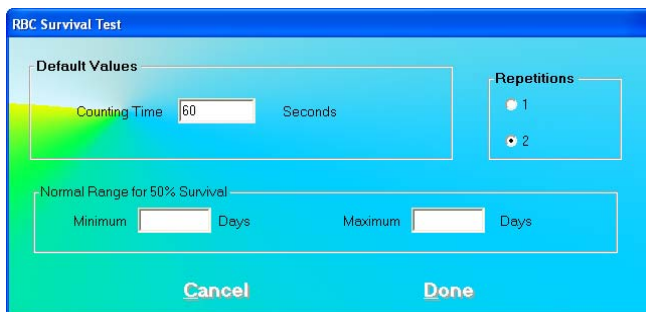

Figure 10-65
1. Click the  icon on the RBC Survival Test screen. The screen appears as shown in Figure 10-65. This screen allows the user to enter counting parameters that will appear as default settings each time a patient is entered into the RBC Survival Test Patient Directory. These settings may be changed as needed for any individual patient or patients.